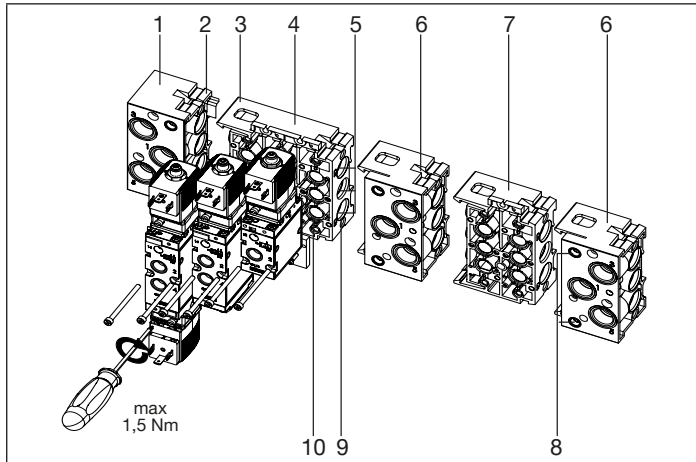

Fig. 5: Example of a multi-block with type 6519 valves
- Begin installation with connection module on the left (see “Fig. 5”)